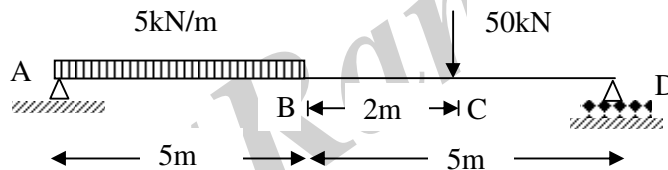

Figure 3
6. Draw the shearing force and bending moment diagrams for the beam in Figure 3.